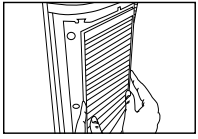

Fig. 9
5. Place the clean True HEPA filters back in the main unit, making sure they are firmly seated inside the unit. Fig. 9